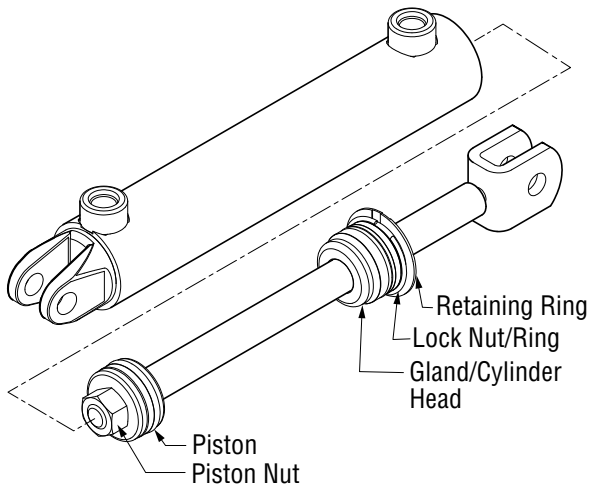

Figure 4-3, Rod Assembly
7. Remove the piston retaining nut and remove the piston. (Figure 4-3)